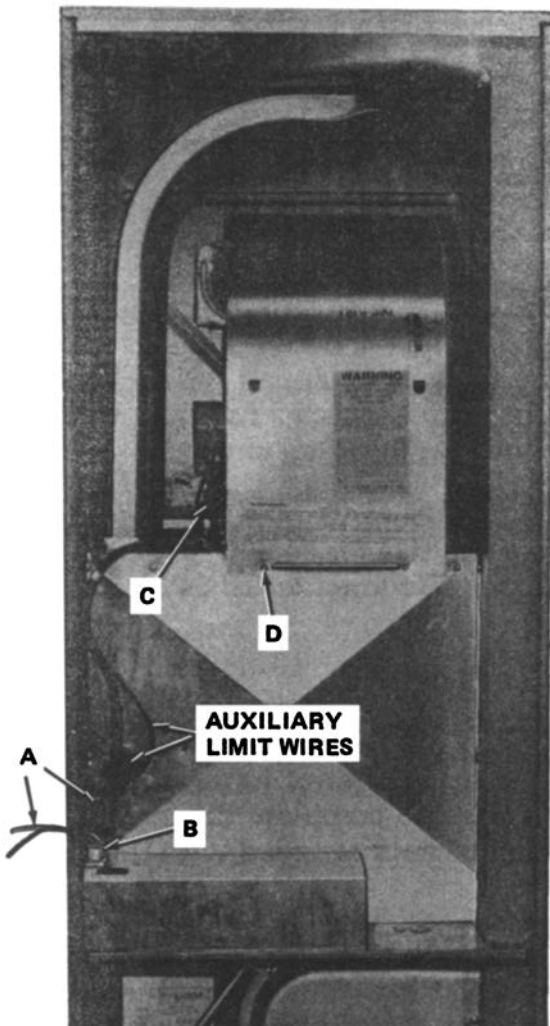

FIGURE 2. COLEMAN FURNACE
3. Refer to FIGURE 2, and do the following:
- a. Disconnect the thermostat leads and pull the two low-voltage wires (A) up through the partition panel.
- b. Squeeze clamping tabs of the motor plug (B) and pull the plug straight out to disconnect from the control panel receptacle.
- c. Disconnect the two auxiliary limit wires from the auxiliary limit switch (C) on left side of the blower housing.
- d. Remove three bottom mounting screws from front blower support (D), and remove side retainer screws from the left and right blower railing. Retain front support screws for later use in these installation instructions.